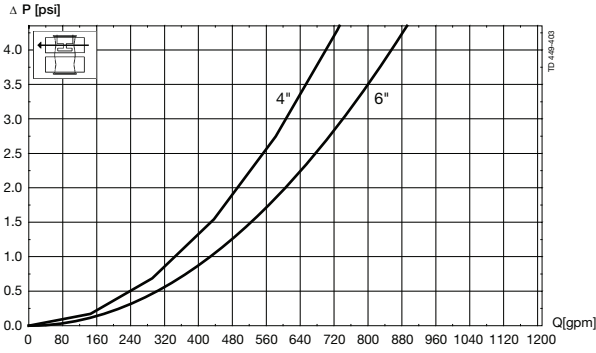

Fig. 2. Pressure drop/capacity diagram, upper bodies.
- From fig. 2, $\Delta p = 0.72$ psi through upper body.